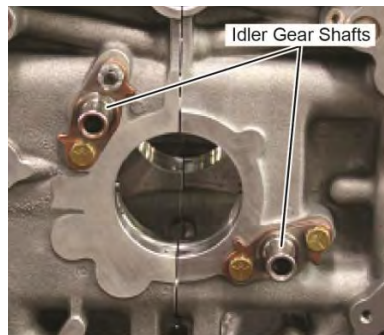
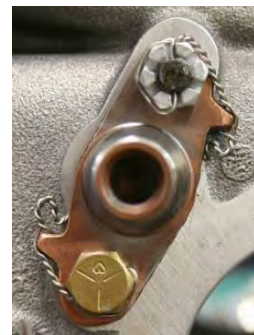

Figure 56
Figure 57
- A. Install the crankshaft idler gear shaft (for the left idler gear) in the crankcase with a nut and bolt (Figure 56). Torque the bolt to 17 ft.-lb. (23 Nm). Torque the nut to 12 ft.-lb. (16 Nm). Safety wire the nut and bolt as shown in Figure 57.
- B. Install the crankshaft idler gear shaft (for the right idler gear) in the crankcase with two bolts (Figure 56). Torque the bolts to 17 ft.-lb. (23 Nm). Safety wire the bolts as shown in Figure 57.